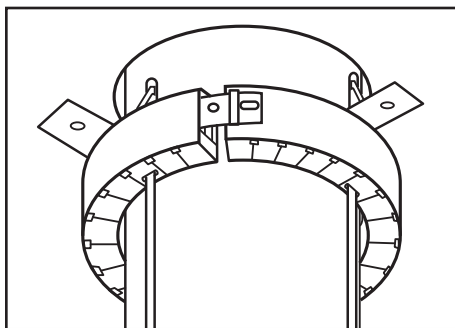

Figure 3: Close PPD to first tab and position.
C. Close the PPD to the **first** locking position only, by sliding the metal tab into the raised belt loop and position the PPD 2 inch (50 mm) from the wall or substrate surface (Figure 3).